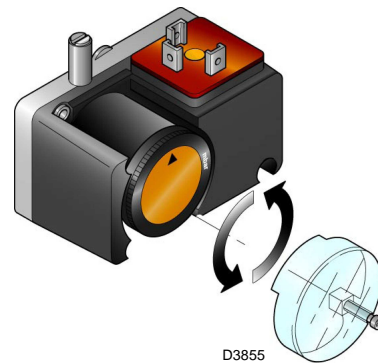

Fig. 35
- Adjust the minimum gas pressure switch (Fig. 35) to the start of the scale.
Adjust the minimum gas pressure switch after performing all the other burner adjustments with the pressure switch set to the start of the scale (Fig. 35).